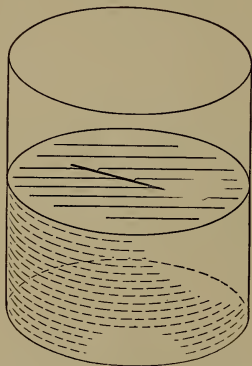

FIGURE 300.—A NEEDLE LYING ON WATER,
**322. Surface Tension.** — All liquids act as if they have a "skin" or "membrane" stretched over their surfaces. A needle may be laid on the surface of water (Figure 300), if care is taken. The surface of the water is curved under the needle just as if there were a cover over the water. This apparent "skin" or membrane is called *surface tension*.